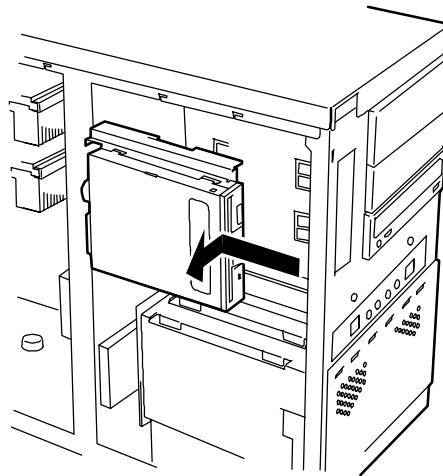

Figure 4-25. Removing the Diskette Assembly
6. Slide the diskette assembly to the rear of the system to release the bracket from the removable media drive cage. See Figure 4-25.